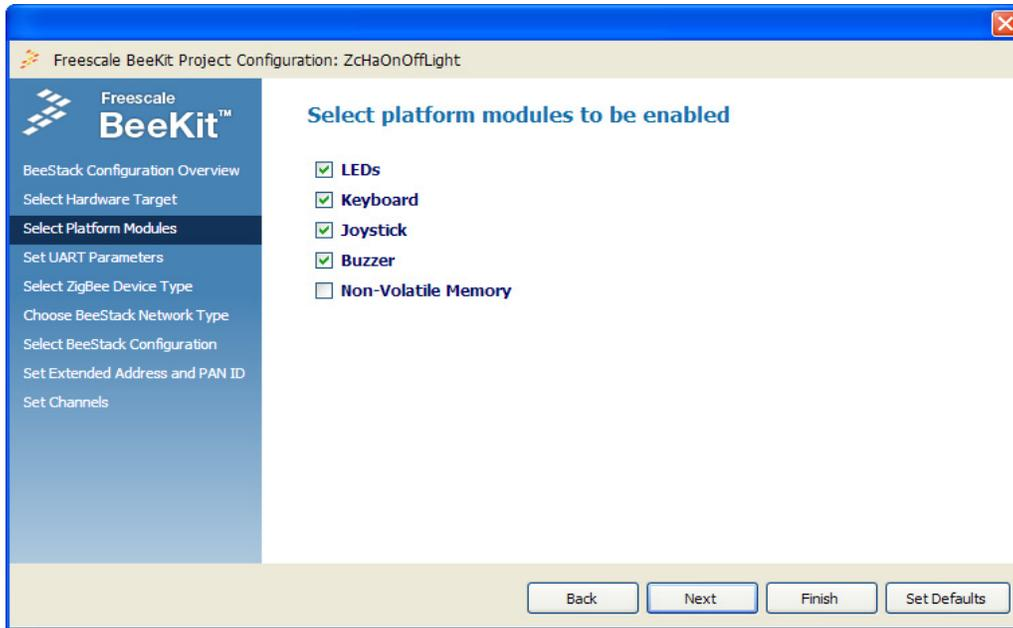

Figure 3-6. Platform Modules Page
2. Select the MC1322x Sensor Node or MC1320x-QE128-EVB radio button and click on the Next button. The Platform Modules page appears as shown in Figure 3-6.